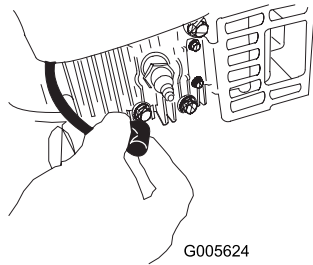

Figure 28
2. Disconnect the spark plug wire from the spark plug before performing any maintenance procedure (Figure 28).